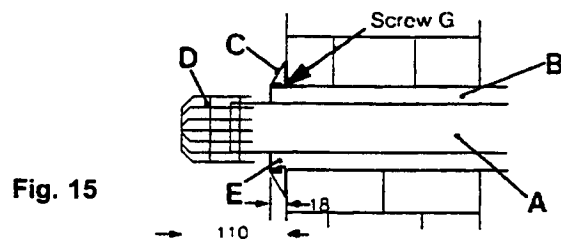
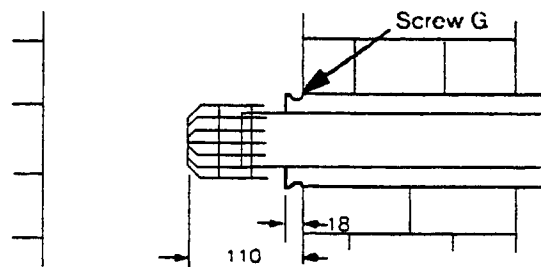

Fig. 15
Fig. 16
NOTE: The two tubes must be separated by removing screw G (fig. 15) before cutting.
5.5.9 Ensure inner and outer terminal tubes are firmly fitted together with screw G (Fig. 15). Push the terminal tubes through the wall until the face of the outer tube protrudes 18mm from the face of the wall (Fig. 15). The terminal grill (D) will then protrude 110mm from the wall face.
5.5.16 Check also that the outer end of the flue projects as indicated in Fig. 15 or Fig. 16 if installed in a S.E. duct.
5.5.19 Seal the peripheral gap around the outer tube with cement or mastic and slip the cosmetic flexible plastic collar (Fig. 15) item C) into groove on the pipe.
- 5.5.31 Subtract 95mm from the dimension and cut the outer tube to this length. NOTE: The two tubes must be separated by removing screw G Fig. 15 before cutting.